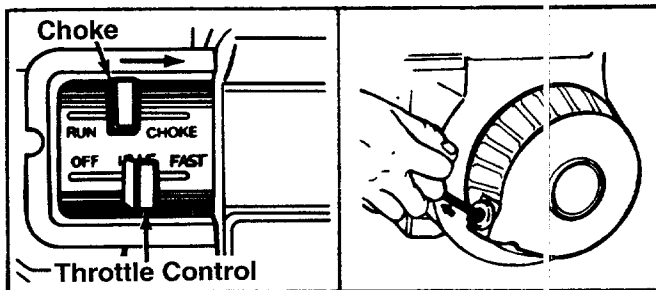

FIGURE 7.—Model 645 Shown
1. Place the throttle control lever in FAST position. See figure 7.
1. Move throttle control lever to OFF position. See figure 7.